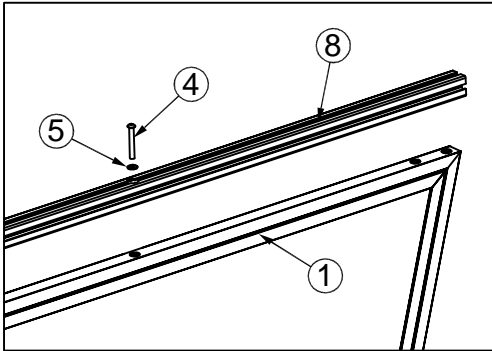
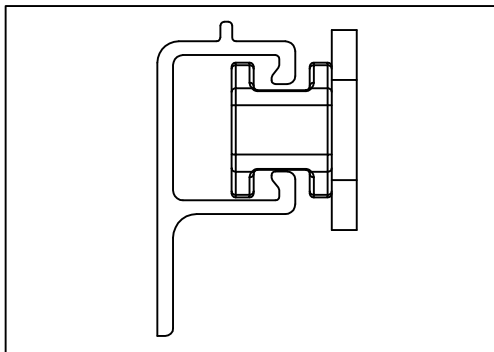
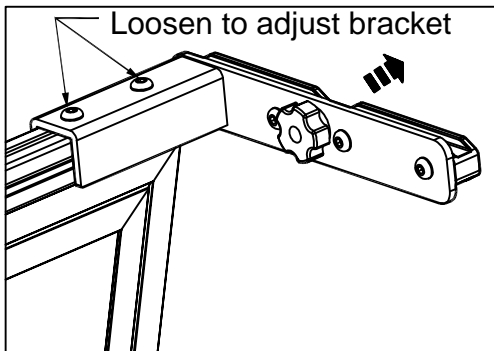

Fig. 1
Fig. 6
Fig. 7
8. For initial adjustment, slide the Bed Divider Assembly to the rear most position. Slide the Mounting Brackets (#2 & #3) out until they are centered as shown in Fig. 6 then tighten. Be sure to also tighten the center bolt (Fig. 1). Torque all 5 bolts to 44.7Nm or 33ft-lbs. (See Fig. 6 & Fig. 7)